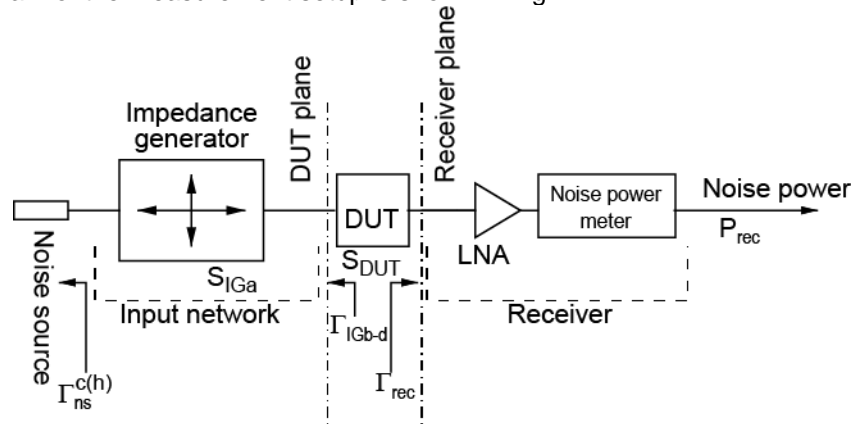

Fig. 4. Block diagram of the noise-parameter measurement system.
A block diagram of the measurement setup is shown in Fig. 4.
- Step 6 Connect the output of IG to the input of the receiver (i.e. as in Fig. 4 but with the DUT replaced by a thru). Set the IG to its state “A”. For both the ON state and the OFF state of the NS, measure noise powers with the receiver ($P_{rec,cal}$), the IG temperature (T_{IG}), and, if available, the NS temperature (T_{NS}). Save measurements in appropriate files.